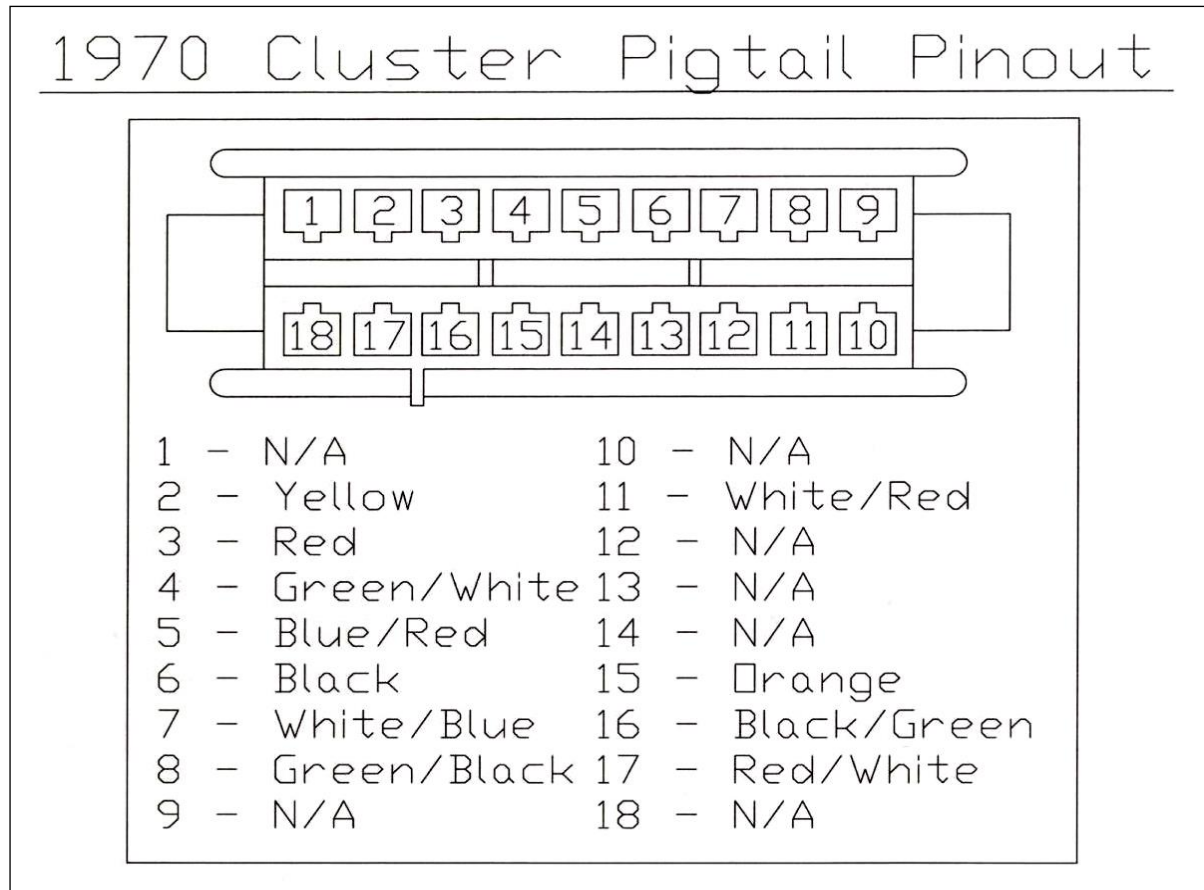

Figure 7-35 1970 Cluster Pigtail Pinout
7.16.1 For the years 1970 thru 1974 locate the '70 – '74 Cluster Pigtail in the harness kit. The connectors from 1970, 1971, 1973 and 1974 Ford trucks are all the same for the gauge clusters. Only 1972 Ford trucks have their own individual connector. The original connector for the gauge cluster must be reused on all trucks. **See Figures 7-35 thru 7-38. Locate the year of the truck being rewired and follow the diagram for the proper pin out.**